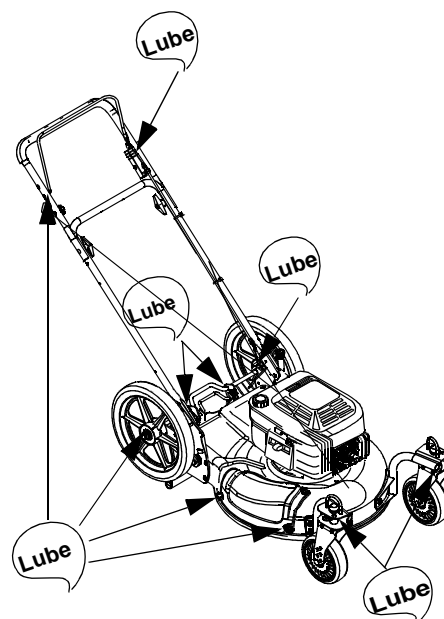

FIGURE 10
For complete lubrication chart, see Figure 10.
- Lubricate mower following the lubrication chart in Figure 10 of this manual.